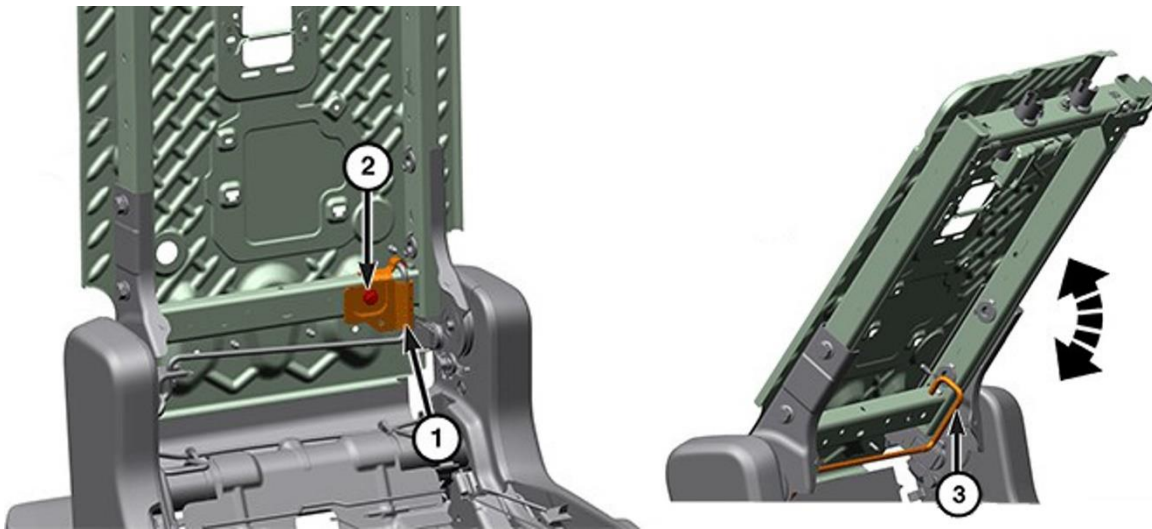

Figure 35 – Seat Back Torsion Spring
- 38. Remove the bolt (2) and retainer (1) securing the seat back torsion spring (Figure 35).
- 39. Tilt the seat to the halfway position, this position will relieve the torsion spring tension. Then lift the hook end of the torsion spring (3) to release it from the seat back frame (Figure 35).
64. Tilt the seat to the halfway position. At the halfway position the torsion spring will be at neutral tension. Then align and hook the end of the torsion spring (3) over the seat back frame lower crossmember (Figure 35).
65. Install the retainer (1) and bolt (2) securing the seat back torsion spring. Tighten the bolt to 10 N·m (89 in. lbs.) (Figure 35).